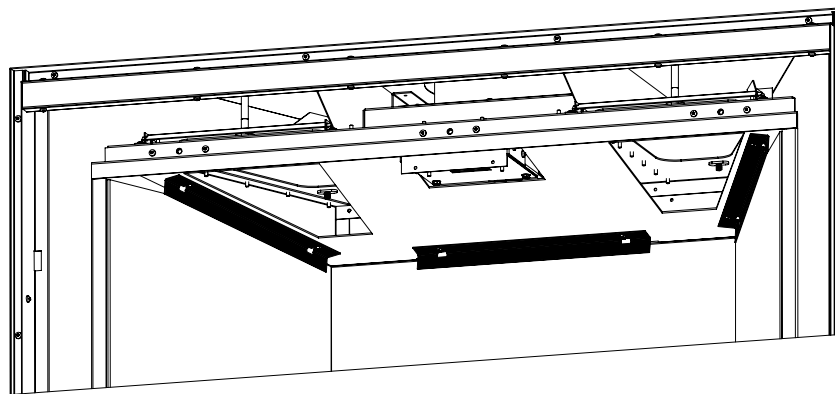

Figure 80: Liner Retainers
Step 3. Remove the liner retainers one at a time using a 5/16 socket. The screws only have to be loosened, not completely removed, as the retainers are slotted. Remove the side liners first, then the rear (see Figure 80).